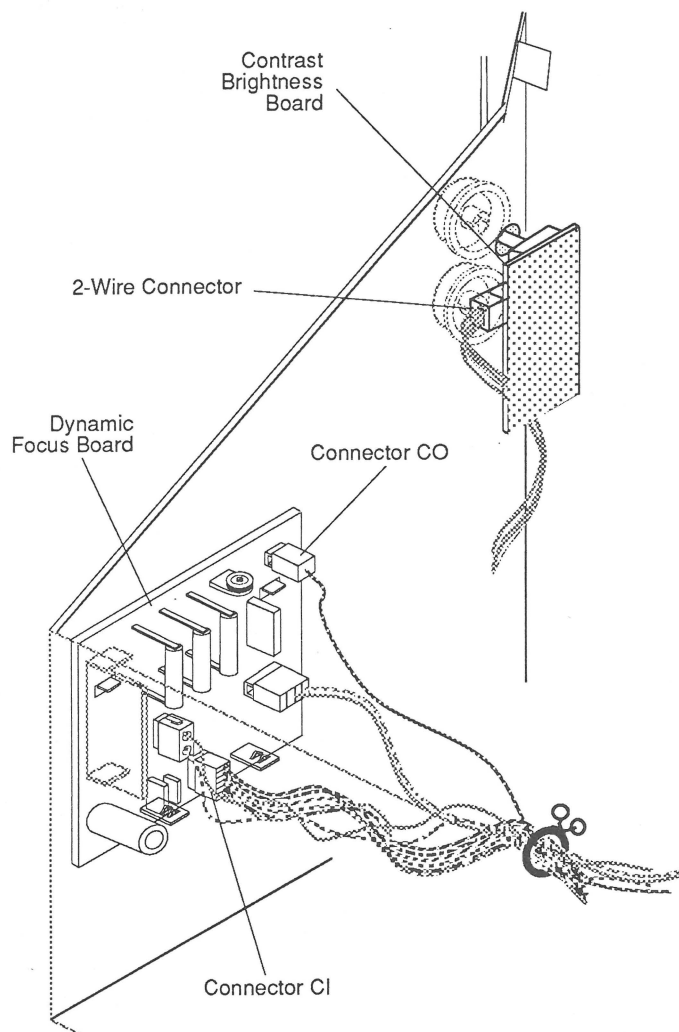

FIGURE 30
5. Connect the 3-pin, 2-wire connector to the contrast brightness board (**Figure 30**).
6. Connect the following connectors to the dynamic focus board (**Figure 30**):